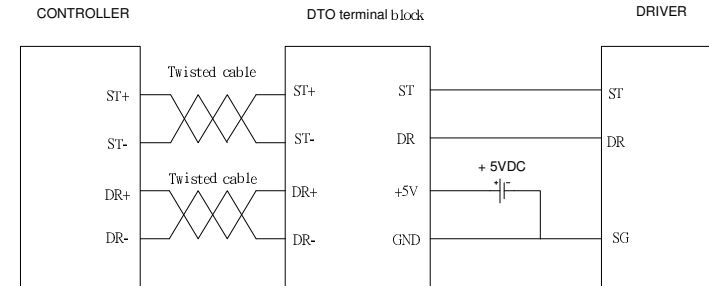

Figure 1
1. Figure 1 illustrates the connection scheme for the controller, DTO terminal block, and the driver.
2. As Figure 1, every set of converting interface needs +5Vdc power source for working normally, and the +5Vdc can be from external power supply or drivers.